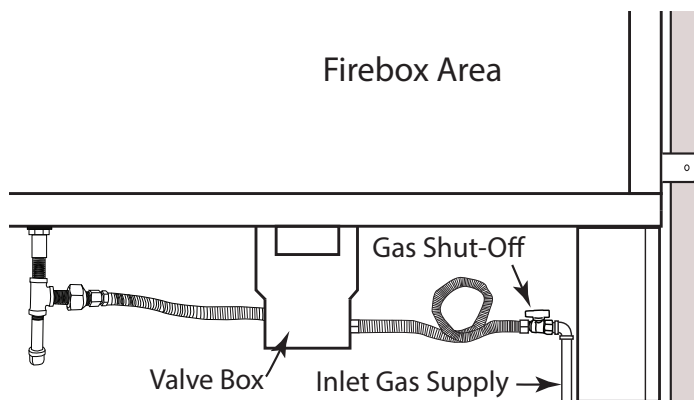

Fig. 1 Close up view of inlet gas connection with shut-off valve.
GAS LINE: The gas line must have a predetermined location to enable it to be installed. Fig. 1 shows one example of an inlet gas line with a gas shut off at the fireplace. This allows a technician to shut the inlet gas supply OFF and remove the burner for servicing. **It is imperative that the flex line from the gas shut-off be long enough to lift out burner pan for service.** Ensure you follow the local and state gas codes per your installation.
3. The primary gas shut-off (supplied) will require a ½" male flared fitting to enable connection of the stainless steel flex gas line supplied with the fireplace (See Fig. 1 page 6).